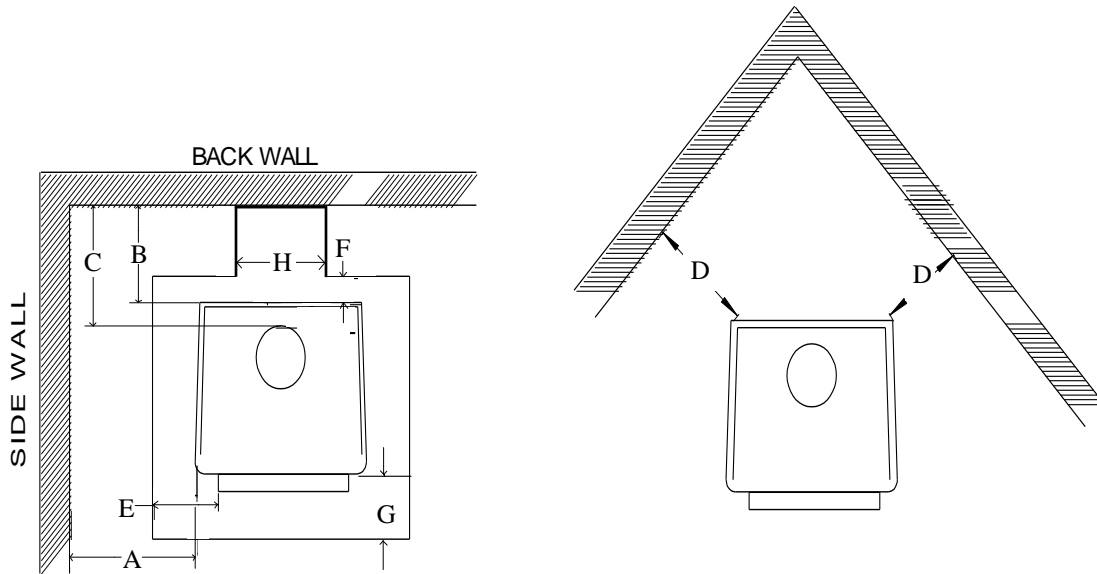

Figure 13
**NOTE:** Floor protector must be under horizontal pipe exit (See Figure 13. Page 19).
For wall exit, floor protector must be under horizontal pipe. There must be 2" on each side of pipe. Maintain 18" between pipe and ceiling. (See Figure 13, measurements F & H).